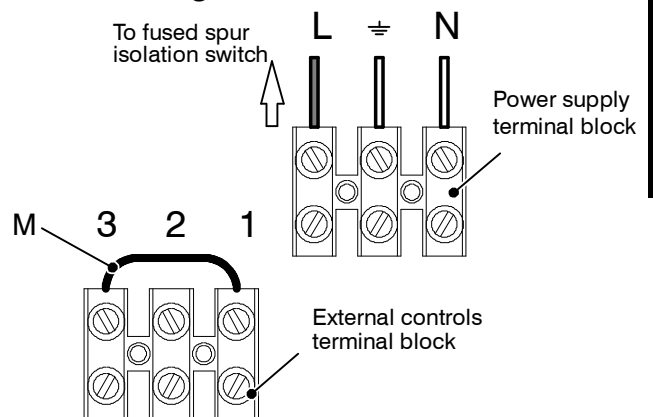

fig. 6.13
- 6 Connect the electrical supply flexible cord coming from the fused spur isolation switch to the power supply terminal block of the boiler (fig. 6.13) keeping the same connections for
When connecting any type of external control, the link M in fig. 6.13 must be removed.